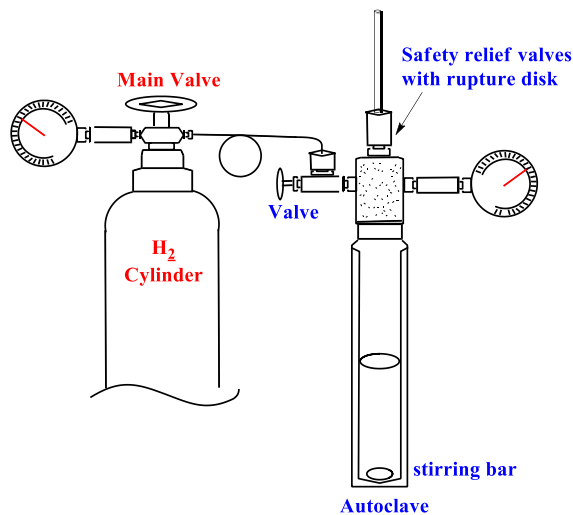

Figure 2. A hydrogenation apparatus.
- (4) The autoclave is connected to a hydrogen source using the arrangement shown in Figure 2. The gas inlet tube is attached to the autoclave and the main valve of the hydrogen gas is opened. The pressure gauge indicates ca. 0.1 MPa. After closing the main valve, the connector of the gas inlet tube is loosened to release hydrogen pressure and tightened immediately. This procedure is repeated five times to replace the air originally present in the gas-inlet tube with hydrogen.
- (5) Hydrogen gas is introduced into the autoclave until the pressure gauge indicates ca. 0.3 MPa, and the pressure is carefully released to ca. 0.1 MPa from the safety relief valve. This procedure is repeated three times to replace the inert gas with hydrogen gas.
- (6) The main valve of the hydrogen gas is opened and hydrogen is introduced until pressure gauge indicates 5MPa.
- (7) The valves are closed and the gas inlet tube is disconnected.
- (8) The mixture is stirred at 100°C for 16 h.
- (9) The autoclave is cooled to ambient temperature and excess hydrogen is carefully released by opening the valve of the autoclave. The apparatus is then disassembled.
- (10) The conversion is determined by gas chromatography (GC) analysis.